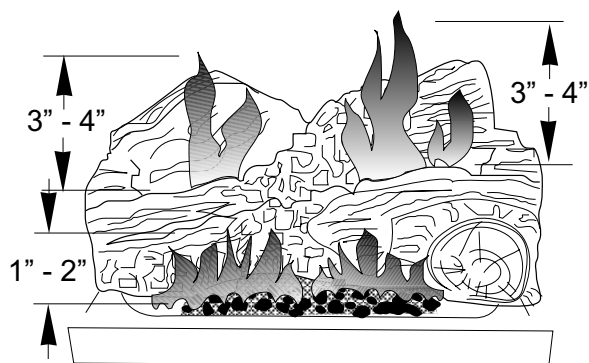

Figure 26. Correct flame picture.
3. Burner Adjustment: The Lillehammer is equipped with a variable gas control valve that provides easy adjustment of the flame height appearance and heat output. To adjust the flame between the HI and LOW setting, rotate the HI/LOW knob, located in the center of the valve face. **Flame height will adjust approximately 1.0" to 1.5" between the LOW and HIGH settings.** See Figure 26.